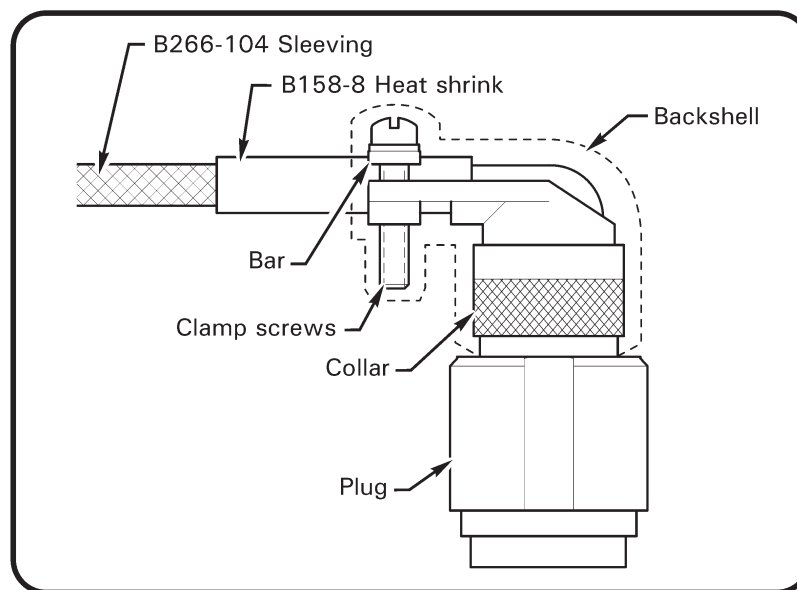

FIGURE 1 D38999/26FC35SN plug
3. Refer to Illustrated Parts Catalog (IPC) Figure 71-3 and Figure 1. Locate D38999/26FC35SN plug on F059-01 (cabin) electrical harness. Remove and retain clamp screws & bar from backshell and loosen (backshell) collar. Disconnect F059 cabin harness plug from F049 engine harness receptacle. Remove ty-raps securing F059 harness wires to wire bundle.
5. Refer to Figure 1. Carefully route KI-223-1948 wire assembly thru B158-8 heat shrink to cabin harness plug (p/n 38999/26FC35SN). Install socket of KI-223-1948 wire assembly in pin hole 22 of plug. Verify socket security. Apply B270-20 adhesive to retained clamp screws and install bar to backshell. Torque screws to 40 in.-oz. Tighten (backshell) collar. Verify security.